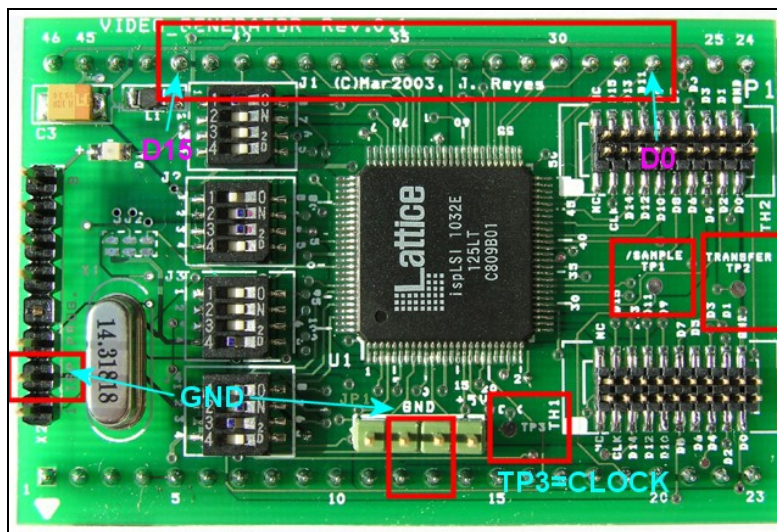

Figure 6: Oscilloscope ground and test points.
4. Figure 6 shows some important tests points.